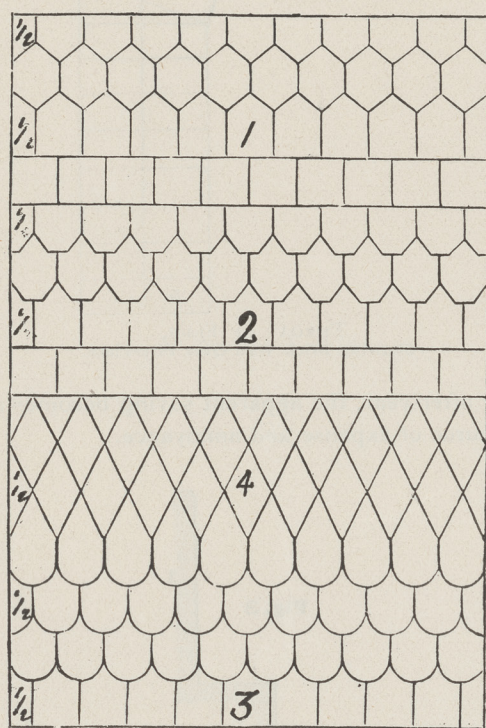

FIG. 2.
Fig. 2, in which are shown four styles of "cut" shingling. No. 1 shows a hexagonal pattern with one angle or lapping joint. No. 2 shows an octagon ended shingle. No. 3 shows semi-circular ended shingles while No. 4 shows a diamond or lozenge shaped end. All or any of these forms are easily made, and the manner of laying is shown in the illustration.
Fig. 2, showing section of fire-place, (2) shows face of chimney, (3) shows brick-work over fire-place supported by iron bars (10). No. (9) shows the throat of flue.